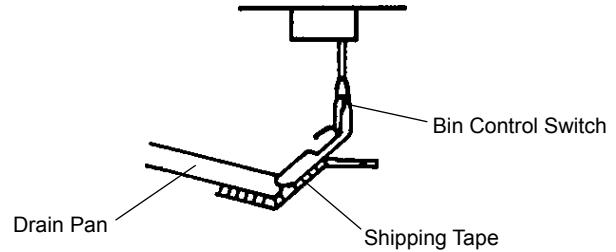

Fig. 2
- 5) Remove shipping tape holding the Bin Control Switch by opening the Bin Door and reaching in (see Fig. 2).